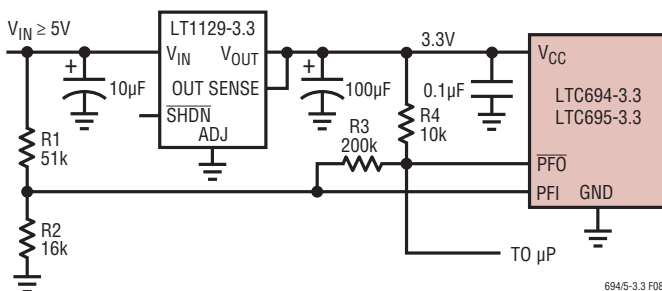

Figure 8. Monitoring *Unregulated* DC Supply with the LTC694-3.3/LTC695-3.3's Power-Fail Comparator
$\overline{\text{PFO}}$  goes low when the voltage at the PFI pin is less than 1.3V. Typically PFI is driven by an external voltage divider (R1 and R2 in Figures 8 and 9) which senses either an unregulated DC input or a regulated 3.3V output. The voltage divider ratio can be chosen such that the voltage at the PFI pin falls below 1.3V several milliseconds before the 3.3V supply falls below the maximum reset voltage threshold 3.0V.  $\overline{\text{PFO}}$  is normally used to interrupt the microprocessor to execute shutdown procedure between  $\overline{\text{PFO}}$  and  $\overline{\text{RESET}}$  or RESET.
The power-fail comparator, C3, does not have hysteresis. Hysteresis can be added however, by connecting a resistor between the  $\overline{\text{PFO}}$  output and the noninverting PFI input pin as shown in Figures 8 and 9. The upper and lower trip points in the comparator are established as follows:
**Example 1:** The circuit in Figure 8 demonstrates the use of the power-fail comparator to monitor the unregulated power supply input. Assuming the rate of decay of the supply input  $V_{IN}$  is 100mV/ms and the total time to execute a shutdown procedure is 8ms. Also the noise of  $V_{IN}$  is 200mV. With these assumptions in mind, we can reasonably set  $V_L = 5V$  which is 1.6V greater than the sum of maximum reset voltage threshold and the dropout voltage of the LT1129-3.3 (3V + 0.4V) and  $V_{HYSTERESIS} = 850mV$ .